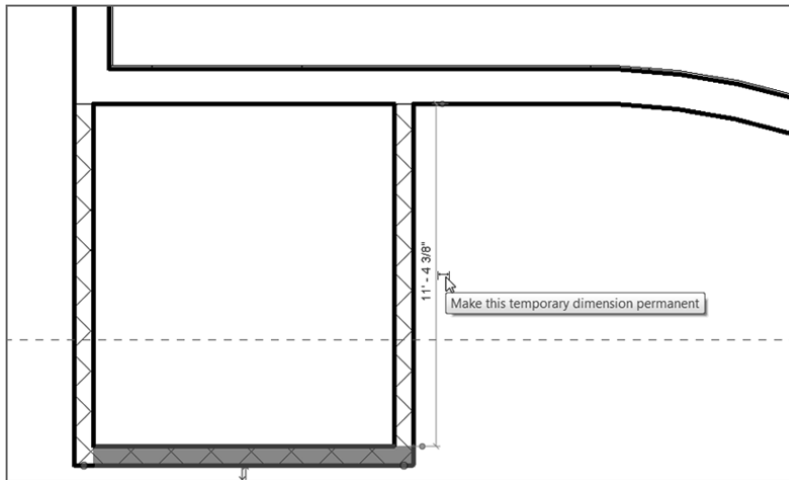

FIGURE 2.27: You can make temporary dimensions permanent.
6. To the right of the dimension, you see a small blue icon that also looks like a dimension. If you hover your mouse over it, a tooltip appears, indicating that you can make the temporary dimension permanent, as shown in Figure 2.27. When you see this tooltip, click the icon.